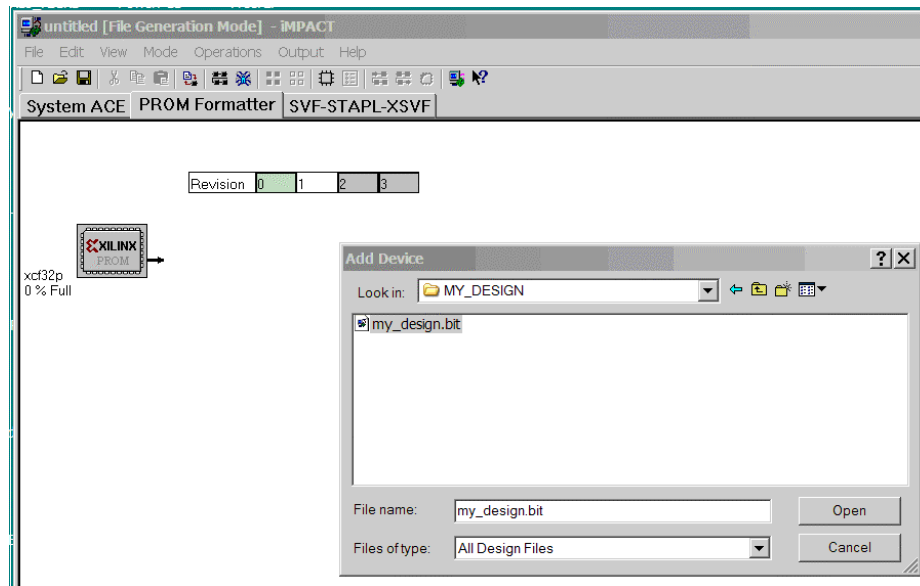

Figure B-6: Adding the Design File to Revision 0
- Click on Add File and navigate to your design directory and select the .bit file for your design as shown in Figure B-6.